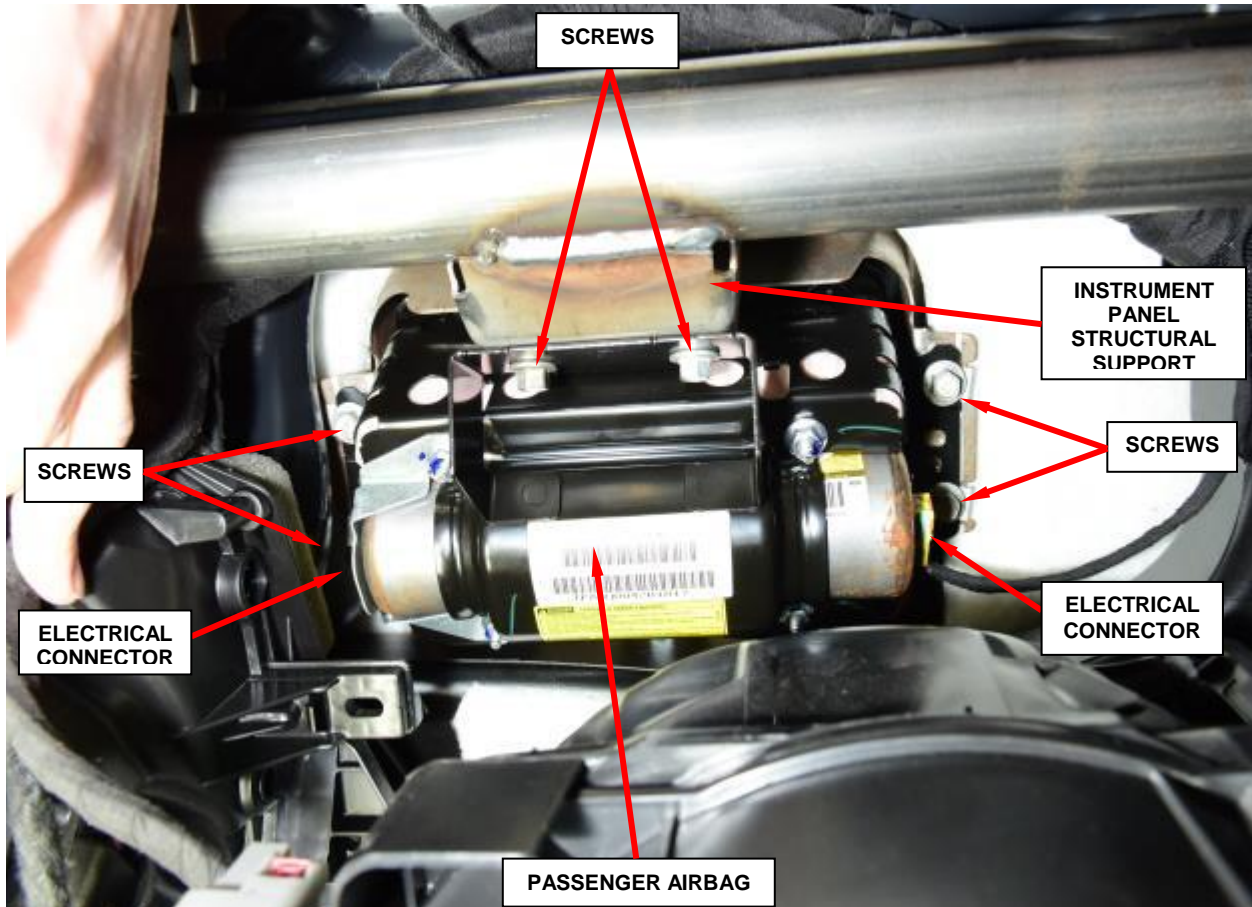

Figure 23 – Passenger Airbag
12. Reach through the instrument panel glove box opening to access and disconnect the two instrument panel electrical connectors from the two Passenger Airbag (PAB) initiators, one at each side of the PAB inflator canister (Figure 23).
13. Reach through the instrument panel glove box opening to access and remove and save the two screws that secure the PAB lower bracket to the instrument panel structural support (Figure 23).
14. Remove and save the four screws that secure the two upper PAB mounting brackets to the U-nuts on each side of the PAB retainer or chute on the underside of the instrument panel cover (Figure 23).